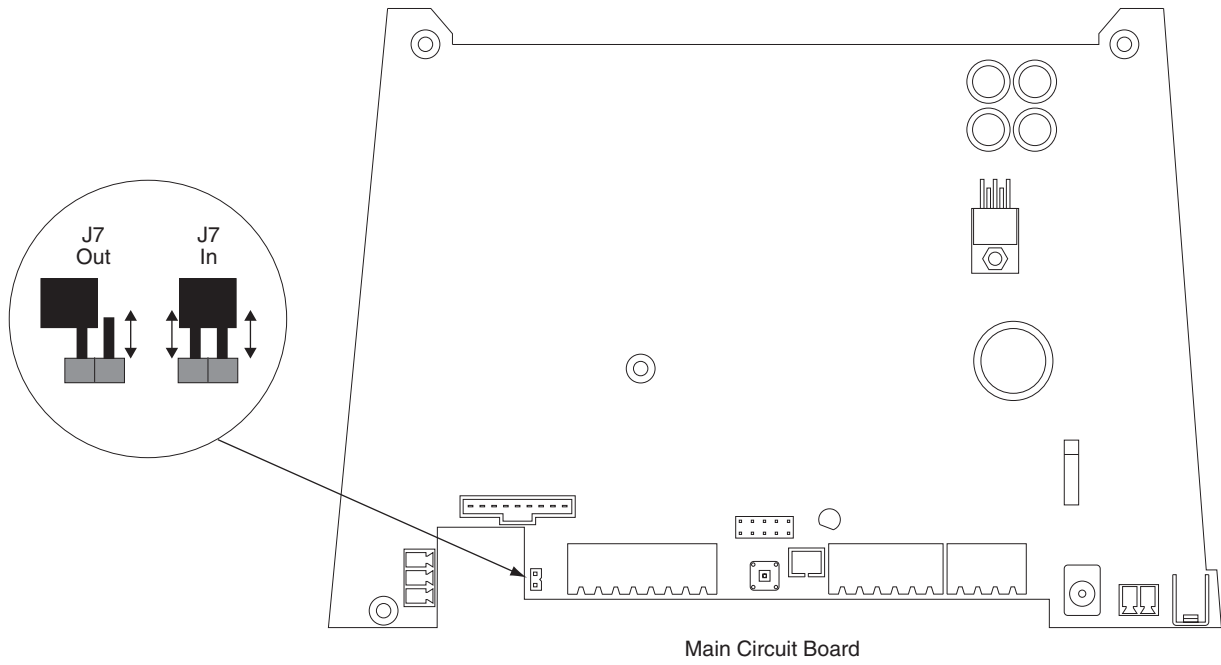

Figure 4
11. If not already installed, install the J7 jumper (if applicable). See figure 4 below.